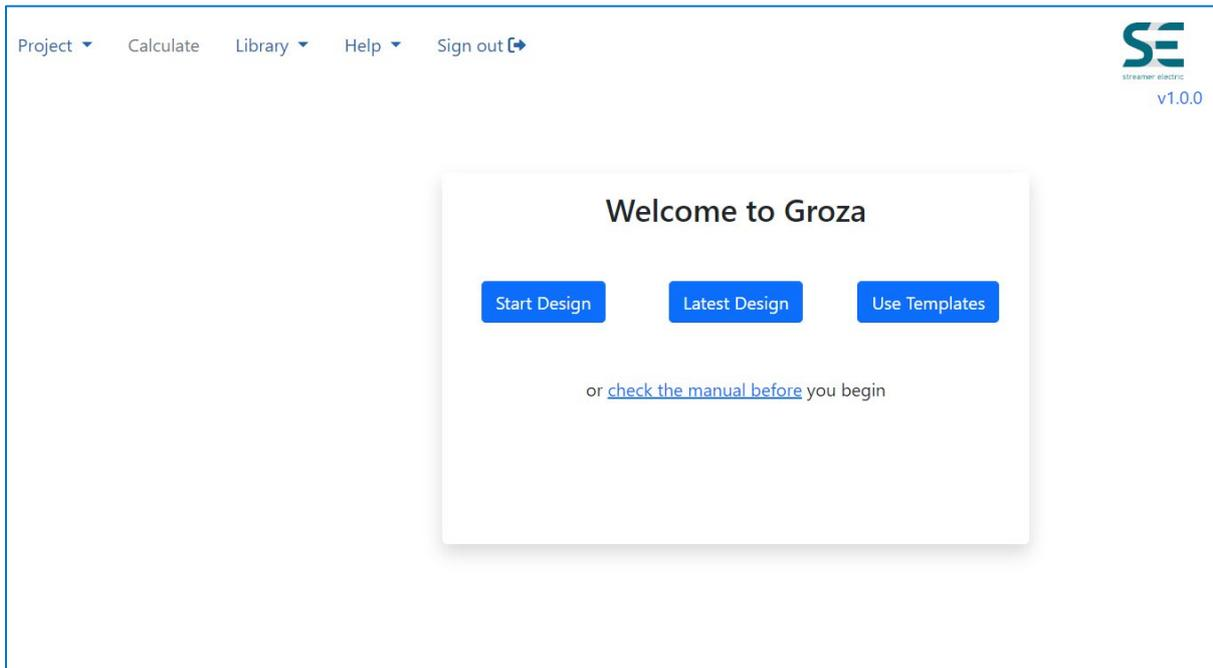

Fig.2
3.1 The start page contains 3 available options (fig.2)